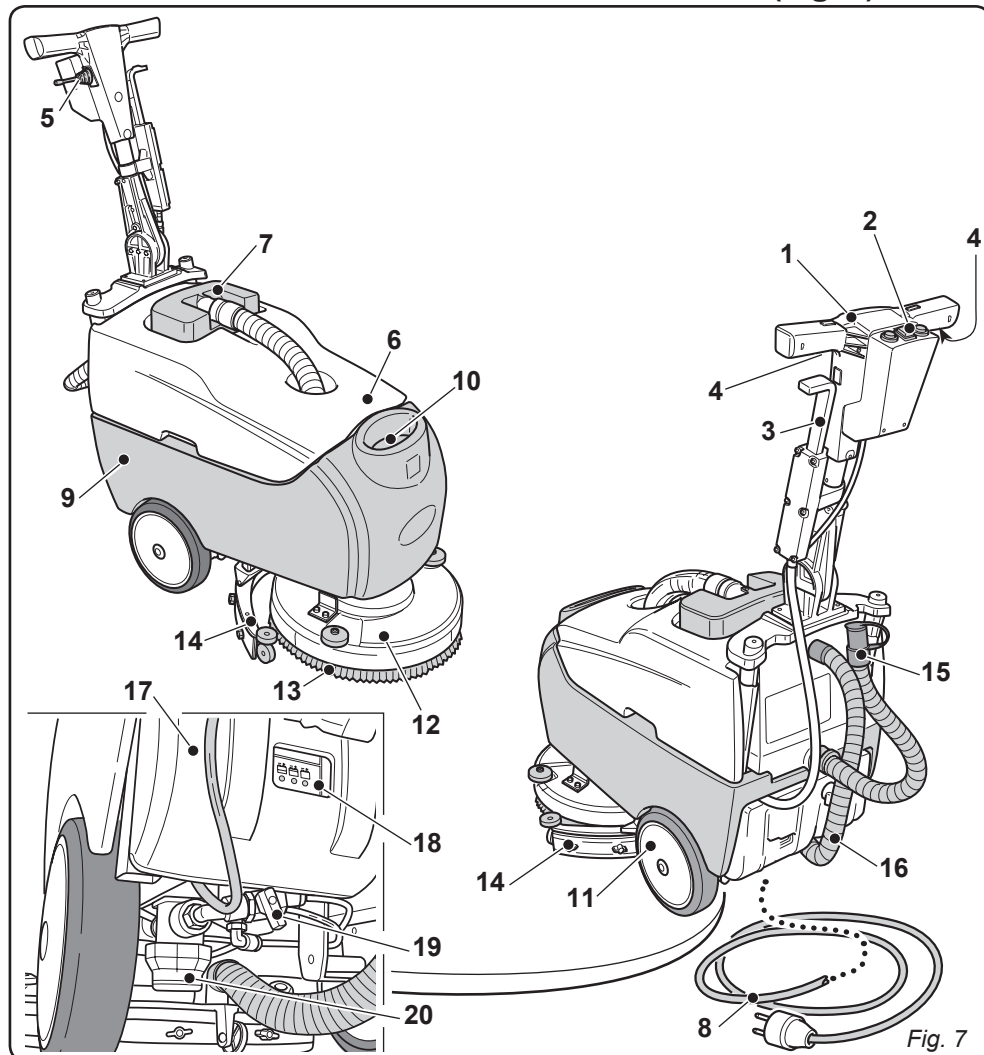

Fig. 7
5.1 CONOSCENZA DELLA MACCHINA (Fig. 7)